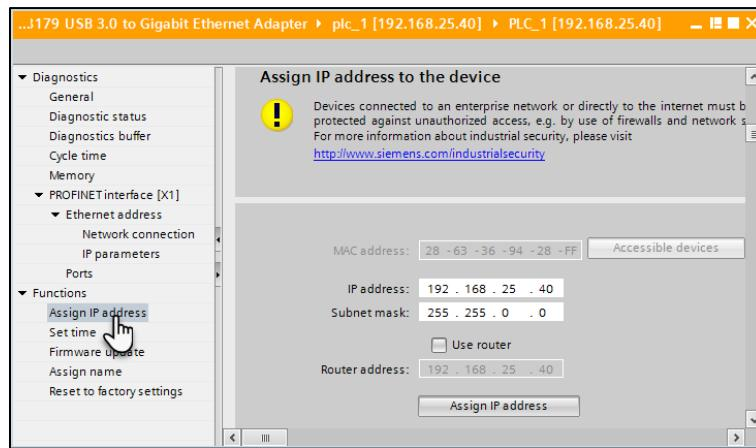

Figure 36: PLC IP Address Assignment Screen
- Open **TIA Portal** or a Siemens compatible software and create a new project by adding your PLC with an IP address in the range of IP of your PC as well. The IP address of the PC for this example is 192.168.25.50. **Figure 36** shows the IP setup for our PLC.